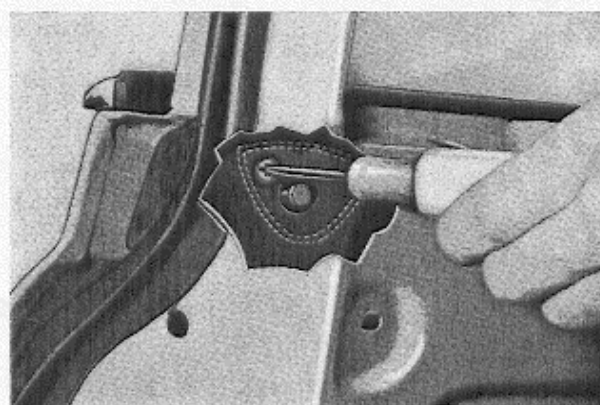

Fig. 14. Removing the lock handle.
6. The door handle is removed by unscrewing the two screws which hold it, see Fig. 14. The screws are accessible from the inside of the door and are most easily removed after the window has been let down or removed. For this, see under "Removing the window".